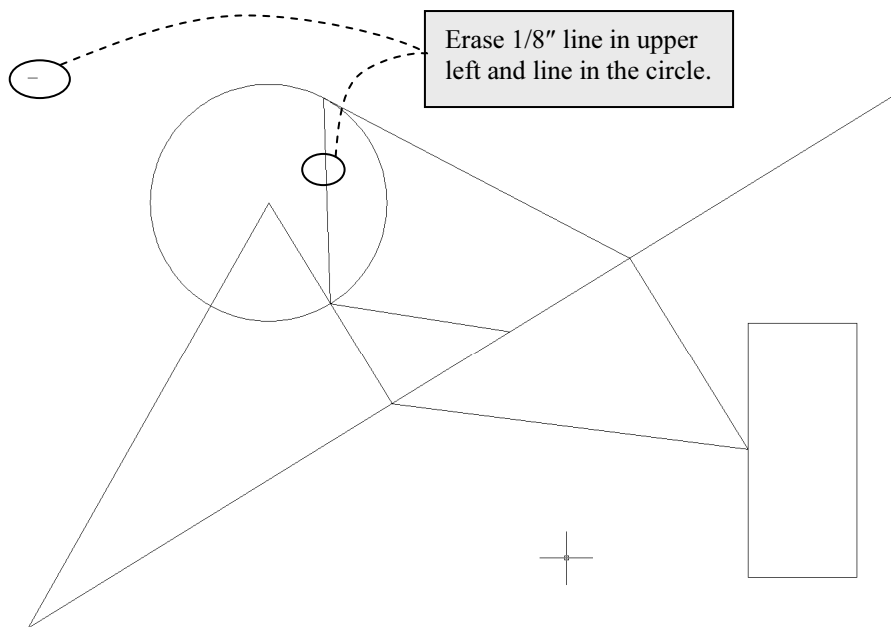

Figure 2-3.2 Lines to be erased
4. [Notice the *Command Line* is prompting: **Select objects:**] Use the mouse to select the lines identified in **Figure 2-3.2**.